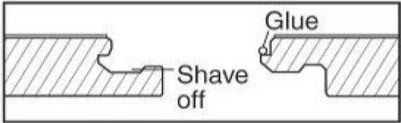

Figure 5
2. Using a small plane or utility knife, carefully shave off the ledge of the groove (**Figure 5**).